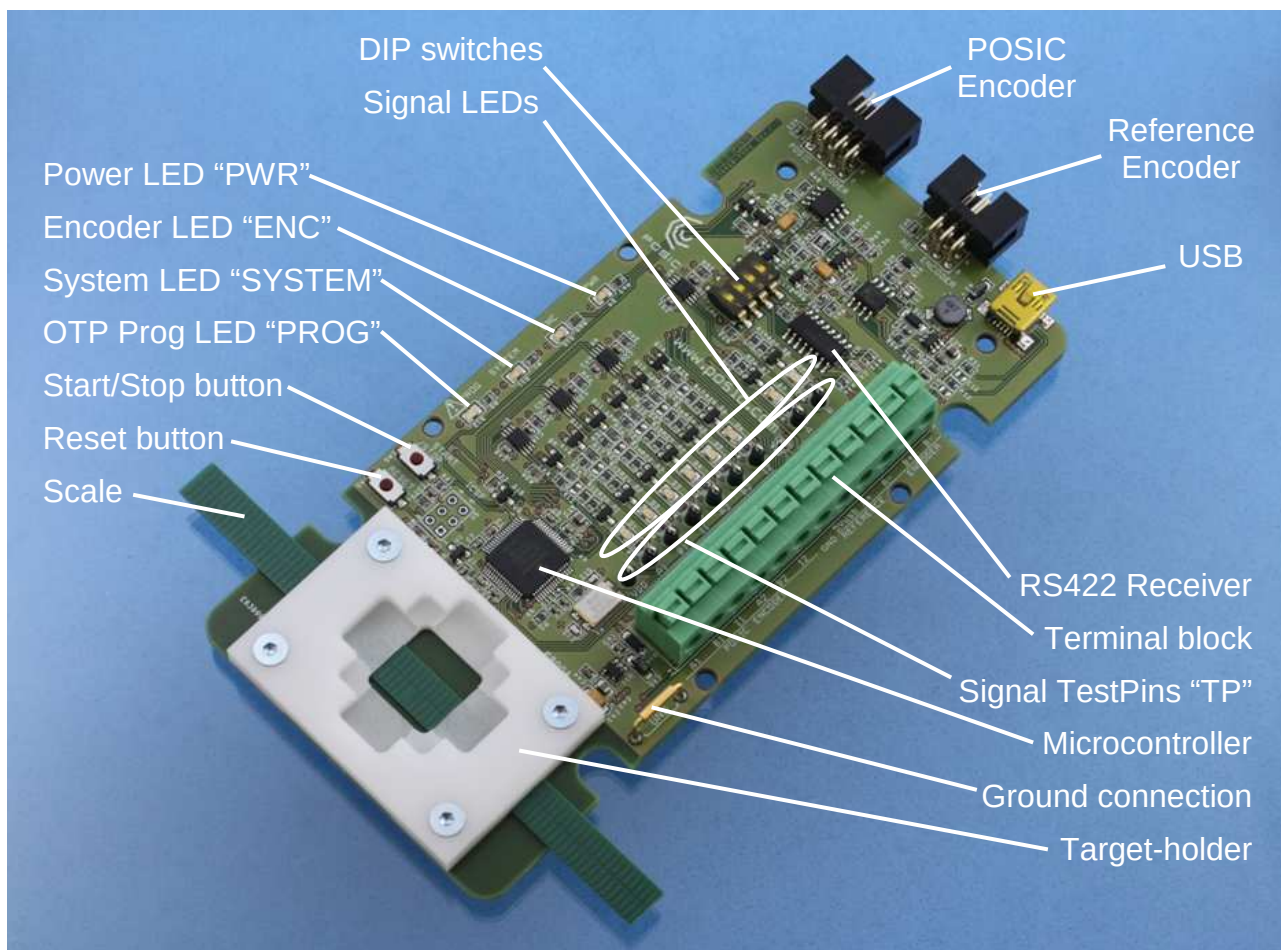

Figure 2 The Interface Board.
The most important elements on the Interface Board are shown in Figure 2. The schematics are given in Annex 5.
The status of the LEDs in Figure 2 are explained in Table 1.
- 3) Place the encoder in front of the target and move the target gently. The A quad B encoder output signals are displayed by the Signal LEDs and can be measured on the Signal TestPins (see also Figure 2)